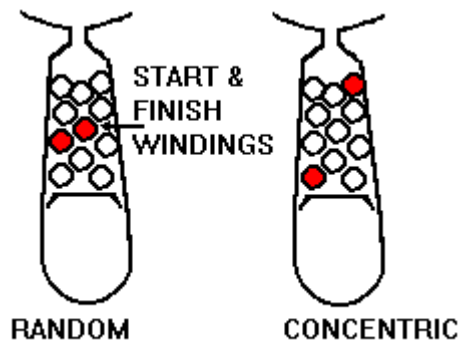

Figure 4
- A. **Successive winding Vs random winding.** Some manufacturing techniques lay the stator windings randomly in the slot, allowing the start and finish windings to lay side by side. This increases the likelihood that excess voltage, regardless of the source, will damage the motor windings. Concentric or compound wound motors are assembled so that each successive winding is layered **on top** of the previous winding, assuring that the first and last turn are on **opposite** ends of the slot. This increases the motors integrity in the face of higher voltages. See Figure 4.